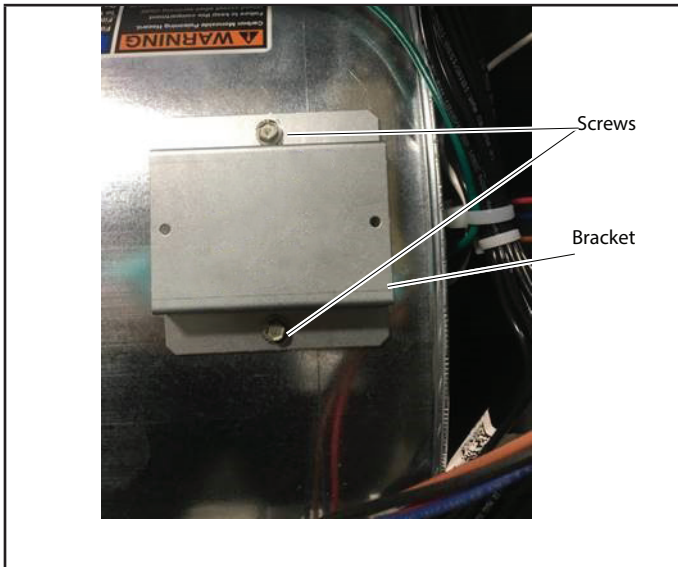

FIGURE 4
- 11 - Using 2 of the provided screws secure the bracket in the pre-drilled location found on the blower housing. See figure 4.